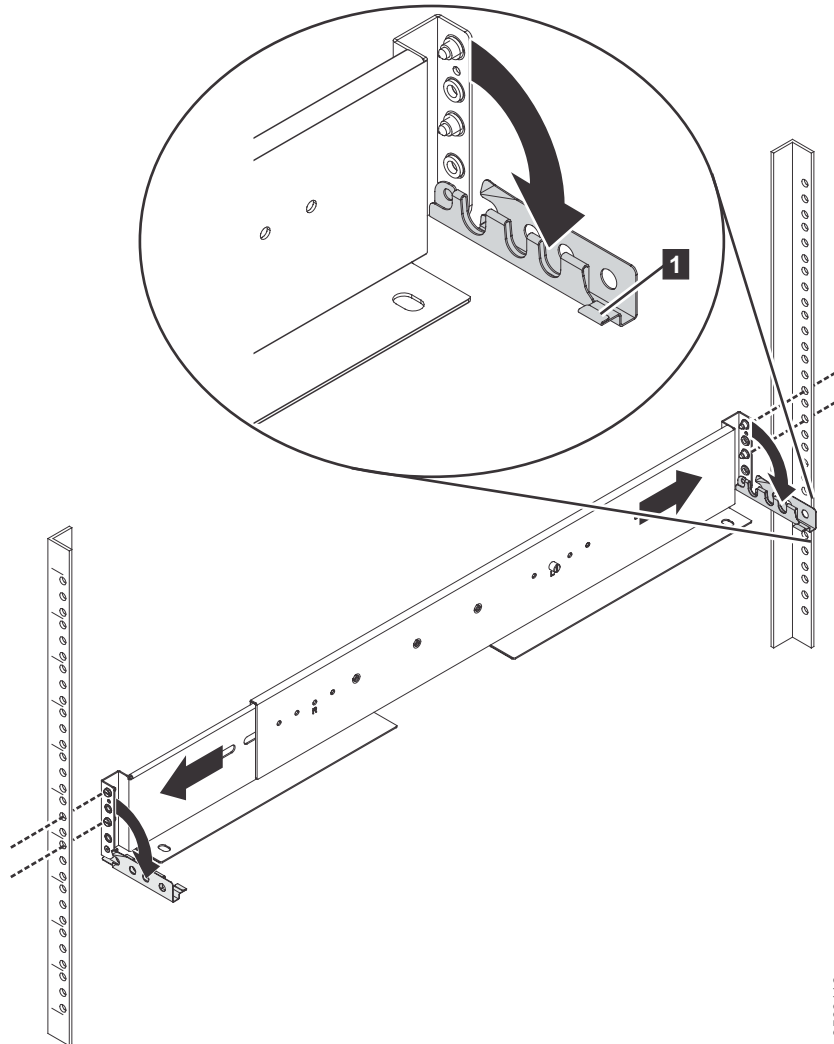

Figure 22. Opening the hinge brackets
6. At each end of the rail, grasp the tab **1** and pull *firmly* to open the hinge bracket (see Figure 22).